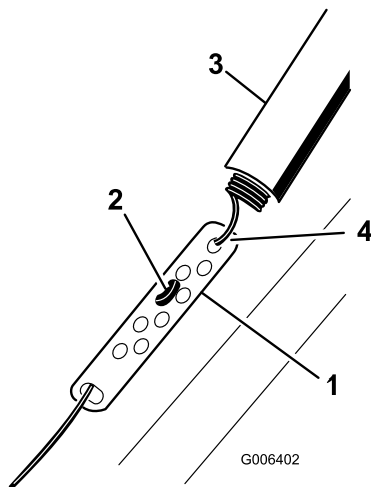

Figure 23
1. Slide up the spring cover and unhook the spring from the adjuster link (Figure 23).
2. Move the Z-fitting to a higher or lower hole on the adjuster link as needed to obtain the 2 mm to 3 mm (1/16-inch to 1/8-inch) gap between the control bar and the handle (Figure 23).